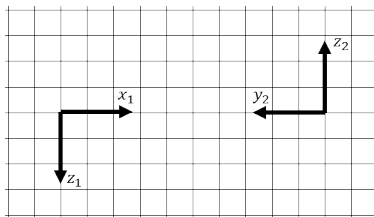

Figure 1.1: Coordinate frames {1} and {2}
a)* Write the rotation matrix 1_2R (as defined in the lecture) between the coordinate frames from Figure 1.1. Write the general constraints on the elements of the rotation matrix.